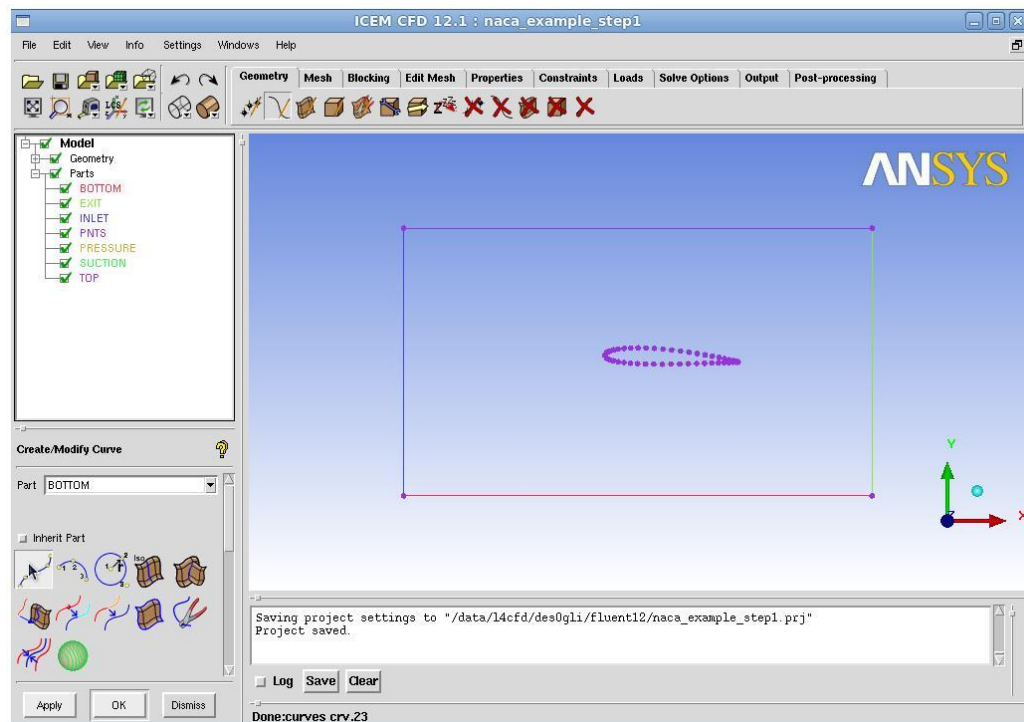

Figure 3: Aerofoil and Calculation Domain.
- Join these points together with straight lines. Label the left hand one INLET, the right hand line EXIT and the upper and lower parts TOP and BOTTOM. Your screen should look like Figure 3.